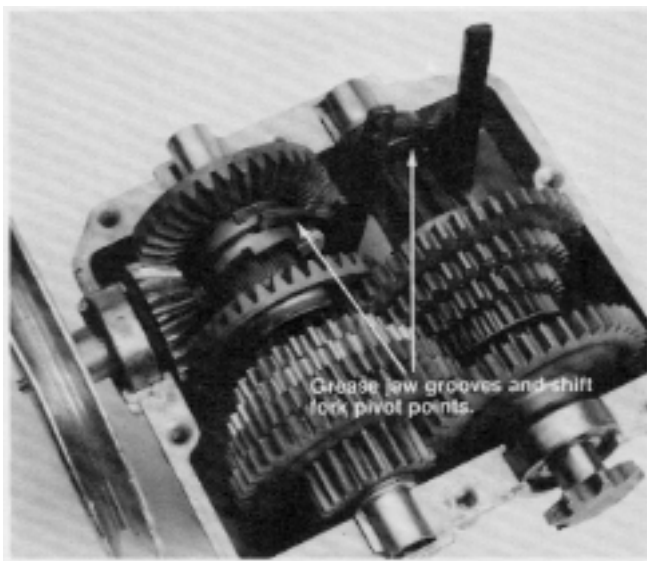

Figure 84
18. Install the two shift forks as shown in Figure 84. Make sure that both shift collar grooves have been greased.